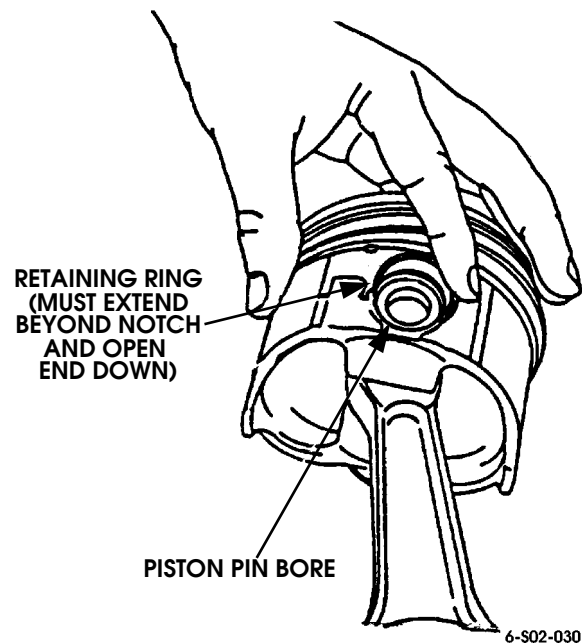

Figure 2-146: Starting Retaining Ring in Piston Pin Bore
- c. Start first retaining ring in piston pin bore (Figure 2-146). Position open end of ring downward toward bottom of piston.